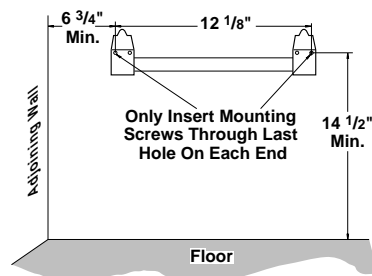

Figure 8 - Mounting Bracket Clearances
WARNING: Maintain minimum clearances shown in Figure 8. If you can, provide greater clearances from floor and joining wall.
2. Mark screw locations on wall (see Figure 8).